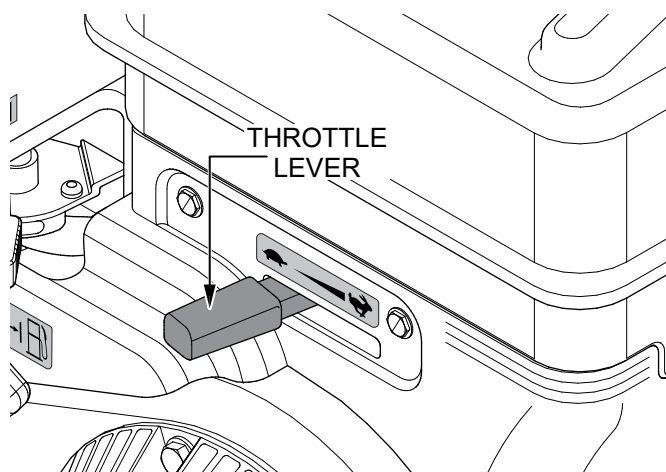

Figure 9. Throttle Lever (Idle)
2. Place the **engine throttle lever** (Figure 9) in the **IDLE** position.